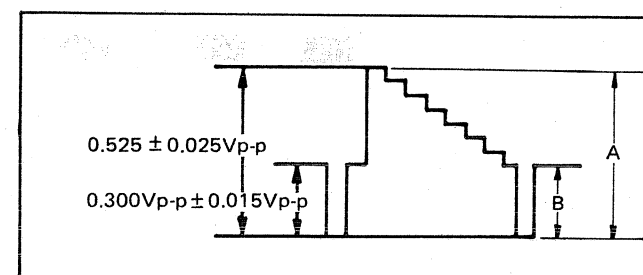

Fig. 16
3. Connect the oscilloscope to Y input terminal and set the output signal levels of PAL colour bar signal generator become "A" =  $0.525 \pm 0.025\text{Vp-p}$  and "B" =  $0.300 \pm 0.015\text{Vp-p}$  as shown in Fig. 16.